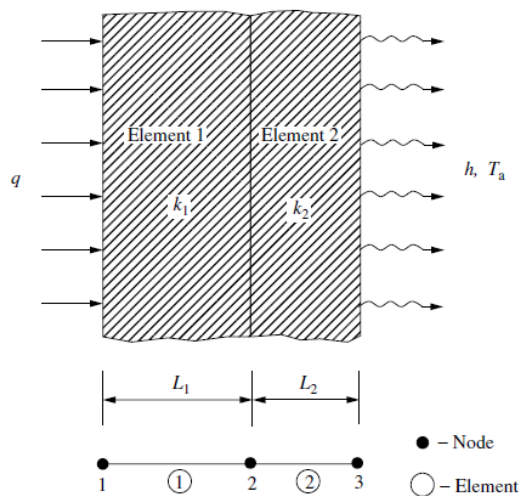

Fig. 3
- Q.4A A one dimensional quadratic element is used to approximate the temperature distribution in a long fin. The solution gives the temperature as 100°C, 90°C and 80°C at distances of 100 mm, 150mm, 200 mm respectively from the origin. Compute the temperature and its gradient at a location of 120 mm from the origin. (03)
- Q. 4B For the composite plane wall having one dimensional steady state heat transfer as shown in **Fig.3**, obtain the finite element equilibrium equations in the form $[K]_{th} \{T\} = \{Q\}_{loads}$. (07)